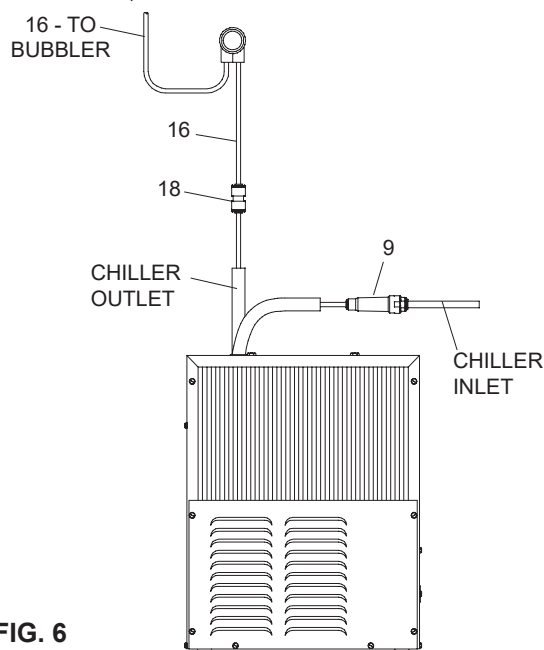

FIG. 6
- 3. ERFP MODELS:** Make connection between remote chiller and building supply line. Inlet port is marked on the chiller (1/4" O.D. copper tube). Bend the copper tube (provided) at an appropriate length from chiller to opening in frame. Install the in-line strainer (provided with chiller) by pushing it in until it reaches a positive stop, approximately 3/4" (19mm) on the marked chiller inlet port. Connect building supply line to strainer. **DO NOT SOLDER TUBES INSERTED INTO THE STRAINER AS DAMAGE TO THE O-RINGS MAY RESULT.** (See Figures 6 or 9).
- 5. Install** the fountain. Remove access cover plate on underside of fountains and save the screws. Mount the fountain to the upper panel and the wall frame with (4) 5/16" x 3/4" (19mm) long bolts and nuts (provided). Tighten securely.
- 7. ERFP MODELS:** Make connections between remote chiller outlet tube and fountain. Outlet port is marked on the chiller (1/4" O.D. copper tube). Install a 1/4" x 1/4" union (provided) on the marked chiller outlet port. Insert the 1/4" poly tubing coming from the fountain into the union. Turn on water supply and check for leaks. **DO NOT SOLDER TUBES INSERTED INTO THE UNIONS AS DAMAGE TO THE O-RINGS MAY RESULT.** (See Figures 6 or 9).